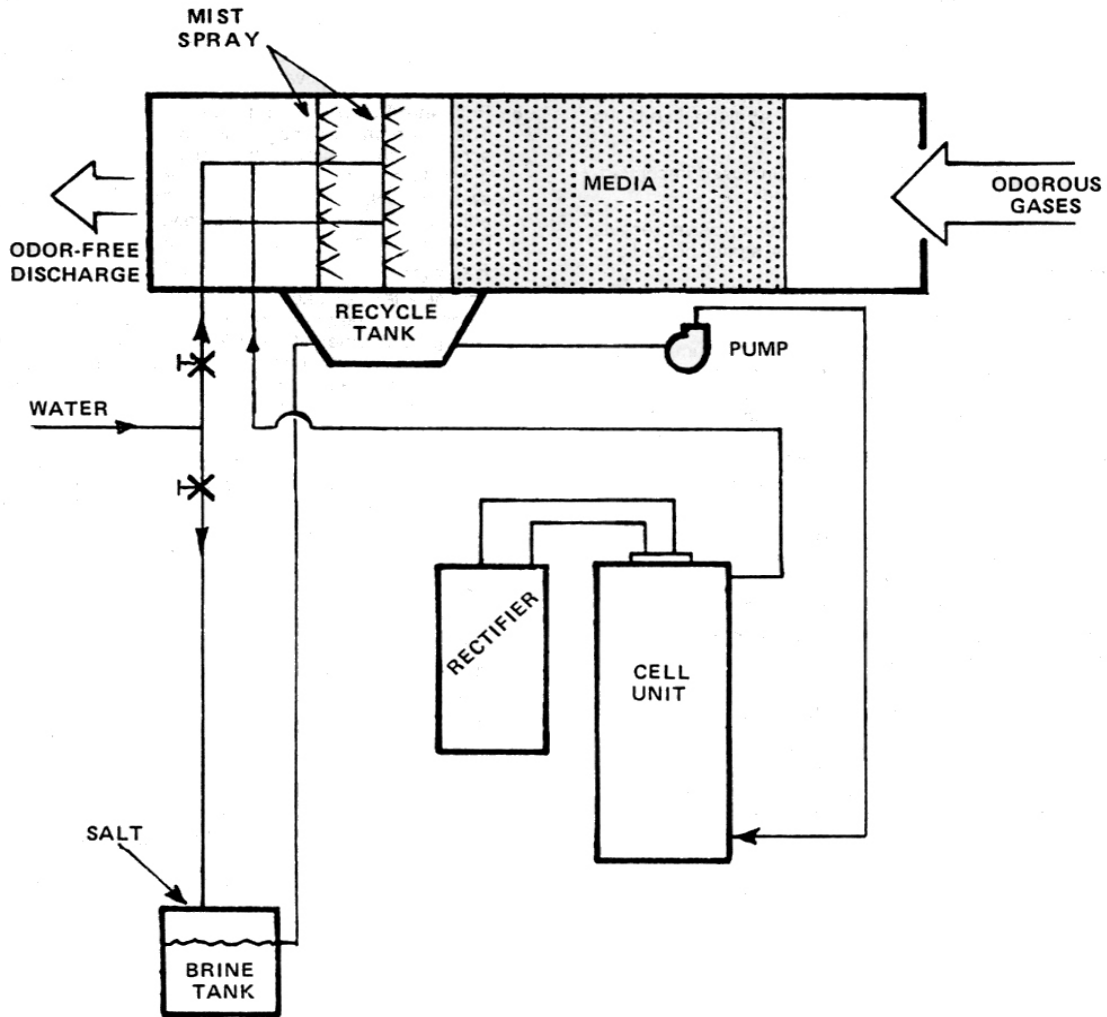
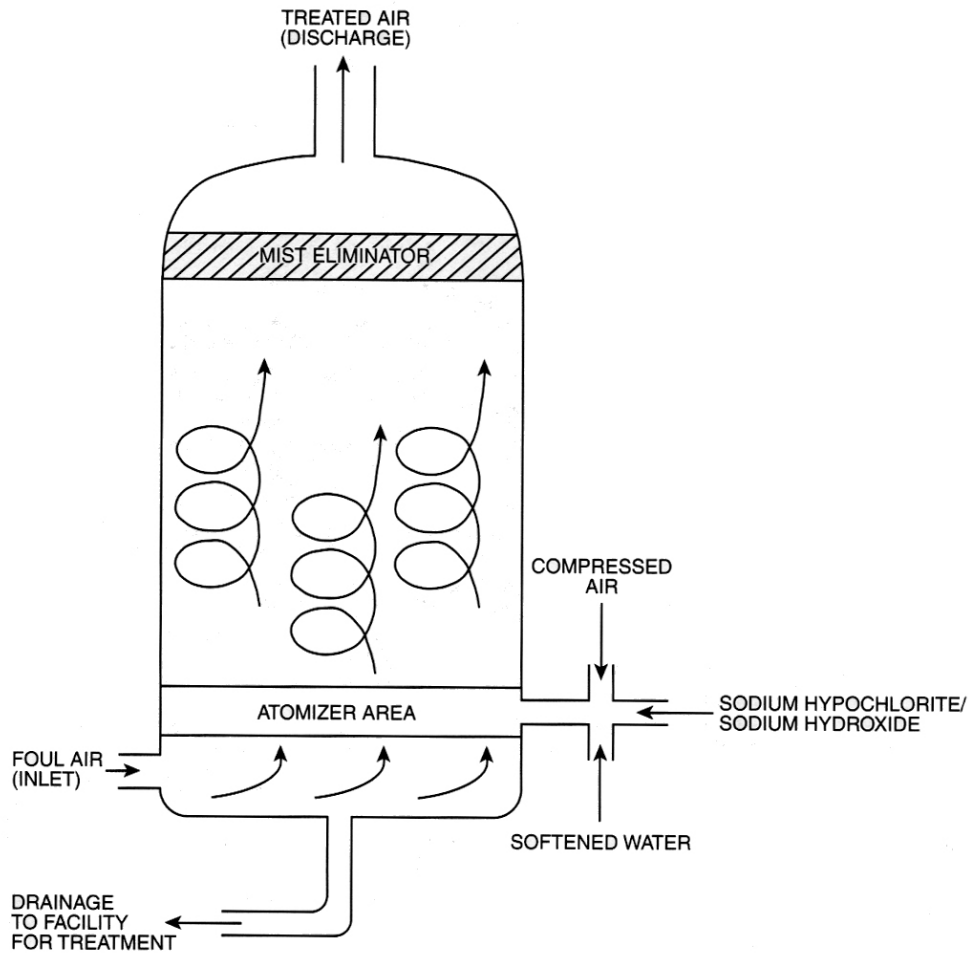

Figure 1.2 An electrolytic chemical scrubber using a brine solution 6
Figure 1.3 A chemical mist odor control system 7
- Examples of chemical absorption systems are shown in Figure 1.2 (An electrolytic chemical scrubber using a brine solution) and Figure 1.3 (A chemical mist odor control system):